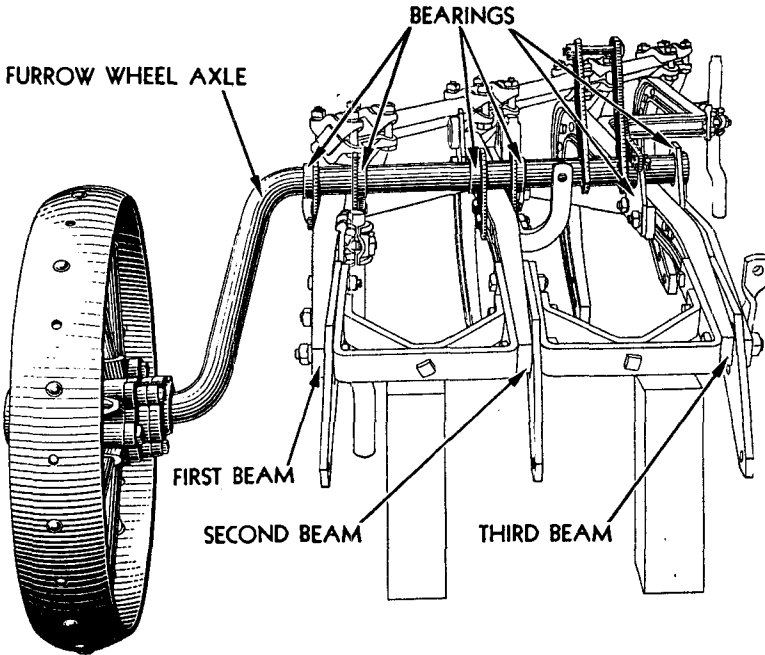

FIGURE 3—ASSEMBLING FURROW AXLE
2. BEAM AND FURROW AXLE.—(Figure 3.) Set the beam assembly (often referred to as frame) in a working position on a floor or other level surface. Place blocks under front end so it will not tip over. Place furrow wheel axle in position, inserting the end of axle through the bearings which are already attached to third beam. Then bolt the bearings assembled on the axle to the first and second beams.
3. FURROW WHEEL.—(Figures 3 and 4.) Remove the hub cap and all bearing parts. Place dust cap, grease seal felt and wheel box on axle. Be sure the dust and grease seal felt is carefully placed in dust cap. Place two wearing washers on axle. Place bearing sleeve on axle and pin rigidly to axle. Put on wheel. Place two bearing washers, then hub cap on sleeve and bolt tight. Put long bolts through dust cap and wheel box, and short bolts through wheel box only. While assembling, grease